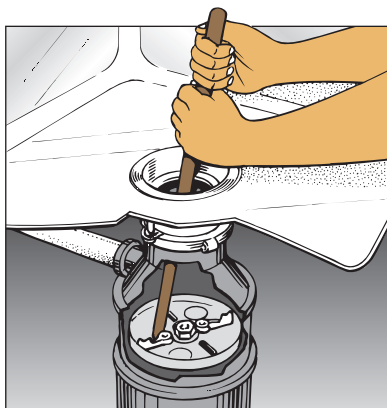

Figure 4-4:
2. Push the bottom end of the wooden probe against the blades in the unit, as shown in Figure 4-4, and rock it back and forth to free it.